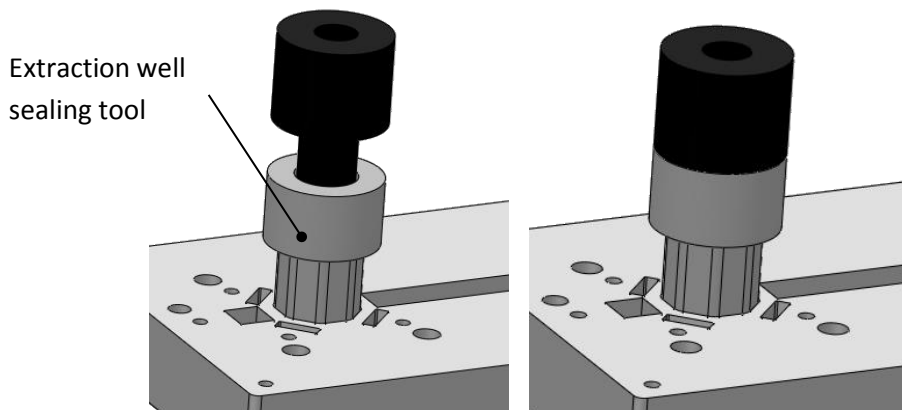

Figure 7: Extraction well sealing tool aligned and uncompressed (left) and fully compressed (right)
- Align the extraction well sealing tool to the extraction well, as shown in **Figure 7** (left). Firmly press down on the tool until it is fully compressed, as shown in **Figure 7** (right). Release and then press down a second time to ensure a good seal.